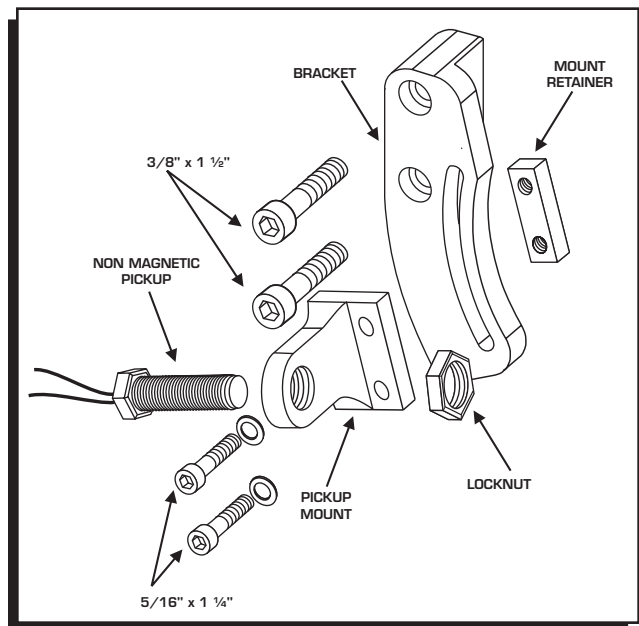

Figure 1 Pickup Bracket Assembly.
1. Install the pickup mount onto the bracket using the two 5/16" bolts (Figure 1). The mount retainer will only install one way, do not try to force the bolts in. Hand tighten the bolts.